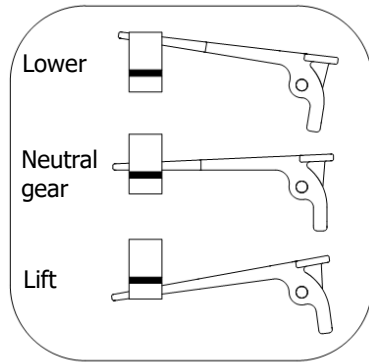

Figure 3
- 3.3 As shown in Figure 3, there is function of lifting, neutral and lowering of the truck.